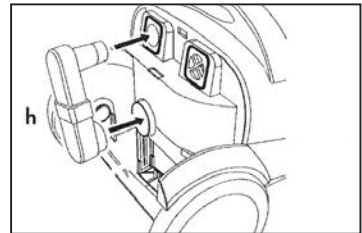

Fig. 13
- Introduce the blower as shown in the illustration. Fig. 13